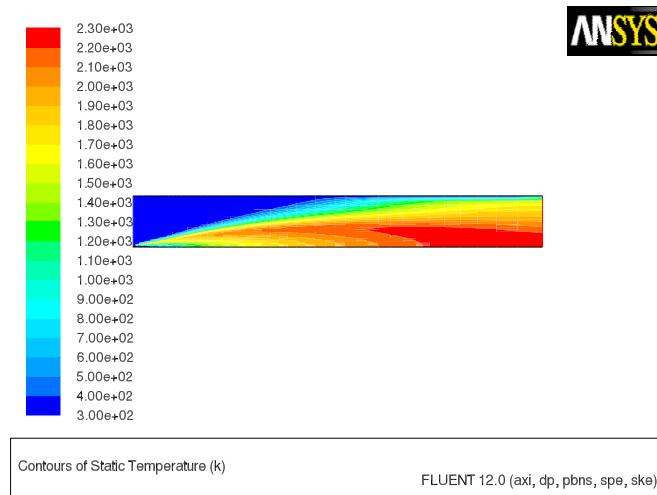

Figure 14.4: Contours of Temperature—Variable C_p
2. Display filled contours of temperature (Figure 14.4).